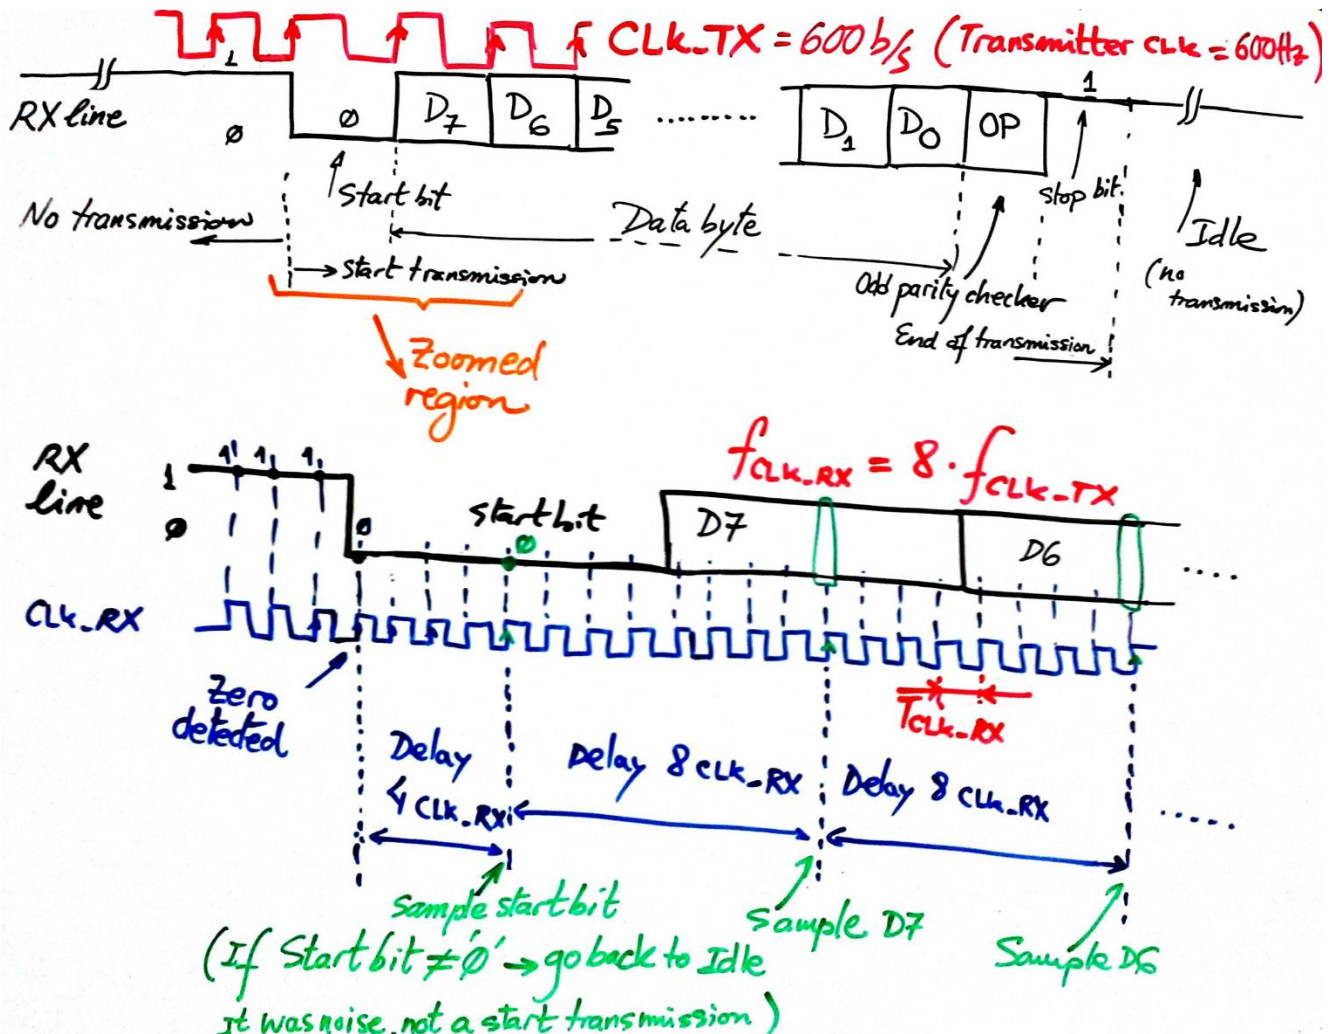

Fig. 2 A transmission frame and a zoomed region at the transmission start. The receiver circuit starts operating when a '0' is detected at the RX input line.
The receiver is always idle waiting for a transmission frame as represented in Fig. 2. The line RX is kept at '1' by the transmitter when it is not in use. When the transmitter has to send a byte, initialises the transmission with a start bit that is always '0', follows with the byte ordered from D7 .. D0, adds an odd parity bit (OP) and finally one stop bit that is always '1'. For instance, if the data byte is the ASCII character "K" = "01001011", the transmission frame looks like this 11-bit sequence: "0010010111".
The receiver works with a 24 MHz quartz crystal oscillator, and, as indicated in Fig. 2 the *CLK_RX* is 8 times the transmitter frequency. In this manner, it is able to detect asynchronously and quickly the falling edge from '1' to '0' that starts the transmission and then to centre the samplings at the half of each bit being transmitted.